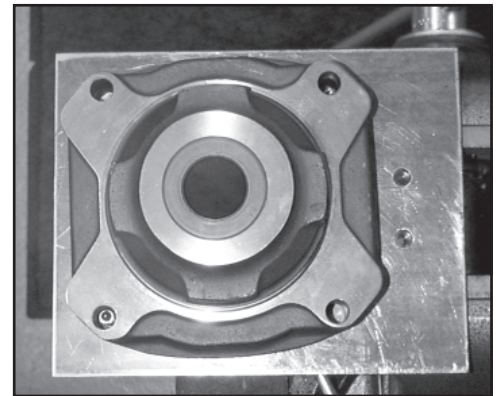

Figure A2
3. Press the dirt and water seal in flush to .020 inch below surface with the flat side facing out. (Item 5) SEE FIGURE A2